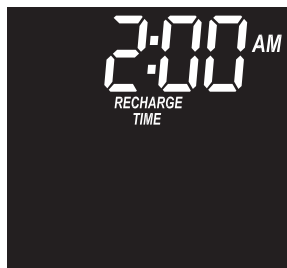

FIG. 31
1. Press the PROGRAM button and hold for three seconds, until the "Recharge Time" screen (Figure 31) is displayed.